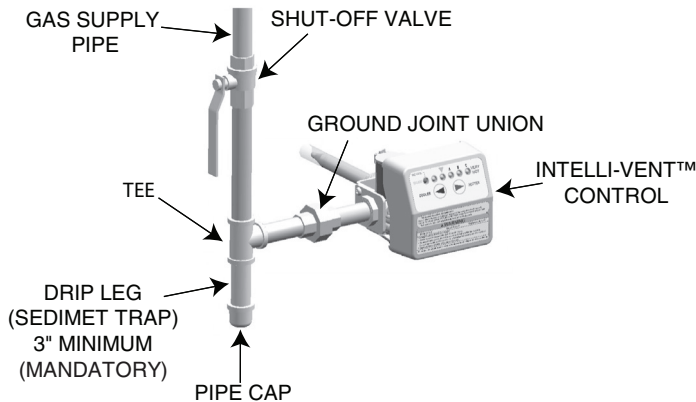

Figure 1. Typical gas connection
6. Disconnect the gas line at the union (Figure 1). Remove the piping from the old control.
To protect the control from dirt and contamination, a drip leg or sediment trap (see Figure 1) must be installed in the piping leading to the control.